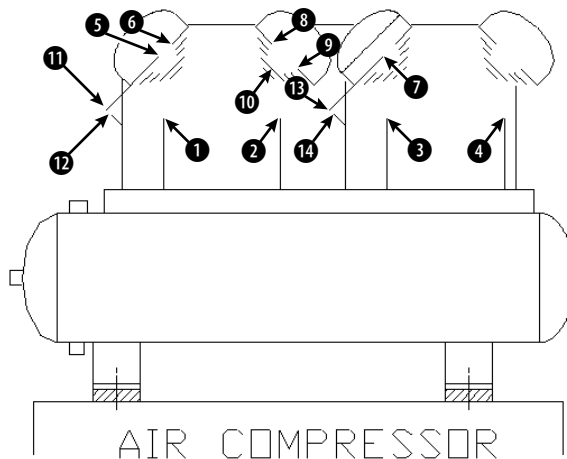

Figure 7-1: The air compressor without its circles.
3.  Choose Circle from the Draw toolbar. Right-click and choose 2P from the shortcut menu. At the Specify first end point of circle's diameter: prompt, pick the endpoint at ❶ in Figure 7-1. At the Specify second end point of circle's diameter: prompt, pick the endpoint at ❷.
4. Repeat the CIRCLE command by right-clicking and choosing Repeat Circle. Right-click and choose 2P from the shortcut menu. Pick the endpoints at ❸ and ❹ in Figure 7-1.
5. Repeat the CIRCLE command by pressing Enter. At the Specify center point for circle or [3P/2P/Ttr (tan tan radius)]: prompt, pick the endpoint at ❺. At the Specify radius of circle or [Diameter]: prompt, pick the endpoint at ❻.
7. Repeat the CIRCLE command by right-clicking and choosing Repeat Circle. At the Specify center point for circle or [3P/2P/Ttr (tan tan radius)]: prompt, right-click and choose 3P. At the Specify first point on circle: prompt, pick the endpoint at **8** in Figure 7-1. At the Specify second point on circle: prompt, pick the endpoint at **9**. At the Specify third point on circle: prompt, choose a midpoint object snap and pick the midpoint at **10**.
12. Repeat Step 11, choosing the endpoint at **13** for the center of the circle and the endpoint at **14** for its radius, as shown in Figure 7-1.